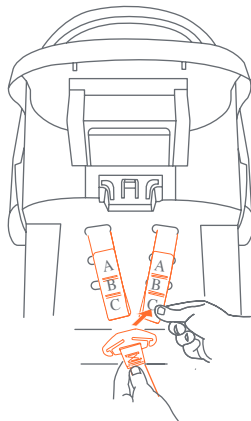

Fig. 31-2
5. Turn the seat over. Locate the Belt Adjuster Plate near the bottom of the seat (Fig. 31-2). Remove both Harness Straps from the Belt Adjuster Plate. From the front of the seat, pull the Harness Straps through the shoulder area slots and seat pad.